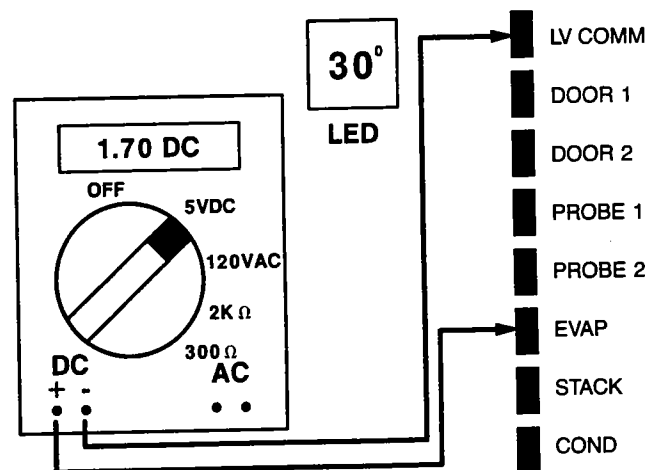

Figure 1 — Evaporator Thermistor Diagnosis
3. Place the black multimeter lead on the terminal labeled COMM on the 5 volt DC (input) side of the controller board. Refer to Figure 1.